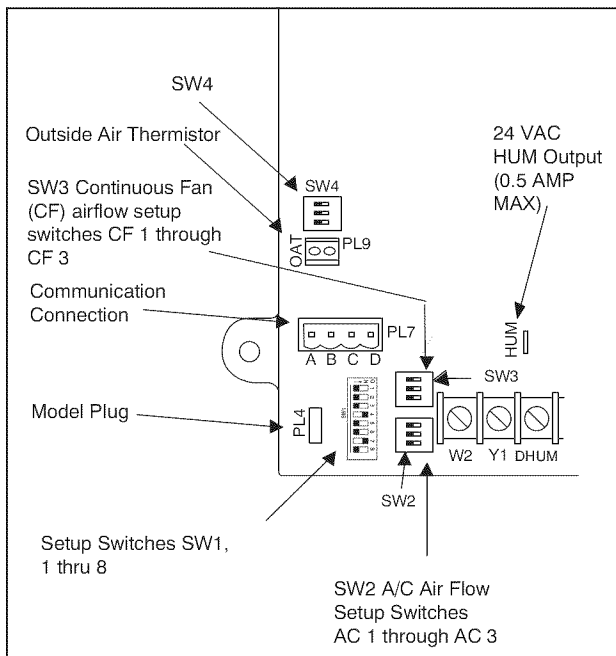

Fig. 14 - Furnace Control
5. Turn Setup Switch SW1-2 on furnace control ON (see Fig. 14).